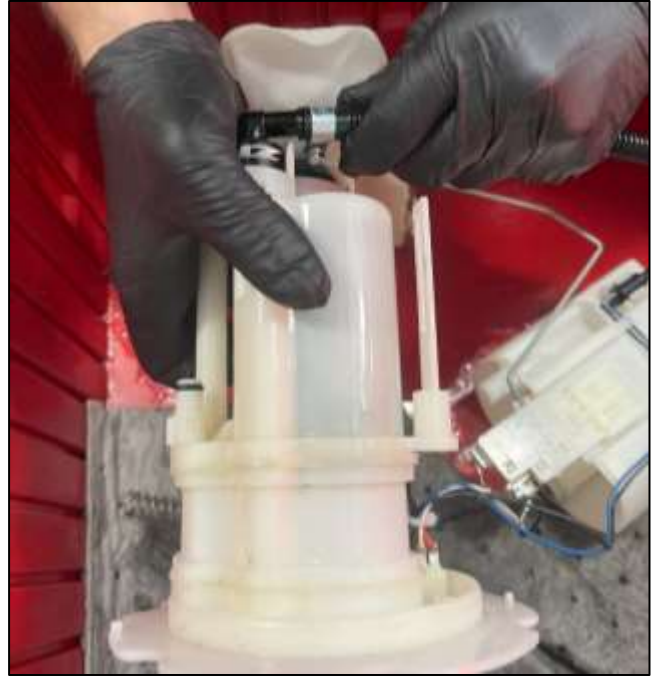

Figure 11
23. Insert the Z1 Regulator Delete into the opening where the OE FPR was (as shown below). The barb on the bottom of the Regulator Delete can rotate, so the orientation of it does not matter at this step. *Figure 11.*